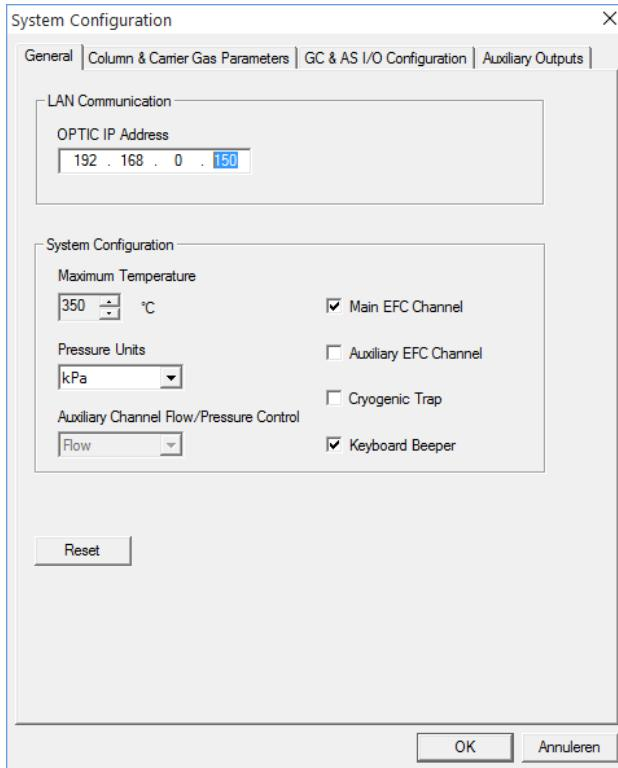

Figure 5.4
3. Type a new IP address (Fig. 5.4) and click 'OK' button. The new address will be sent to the device and the OPTIC-4 controller will reboot. The system configuration dialog will stay open for approx. 15 seconds until controller is rebooted.